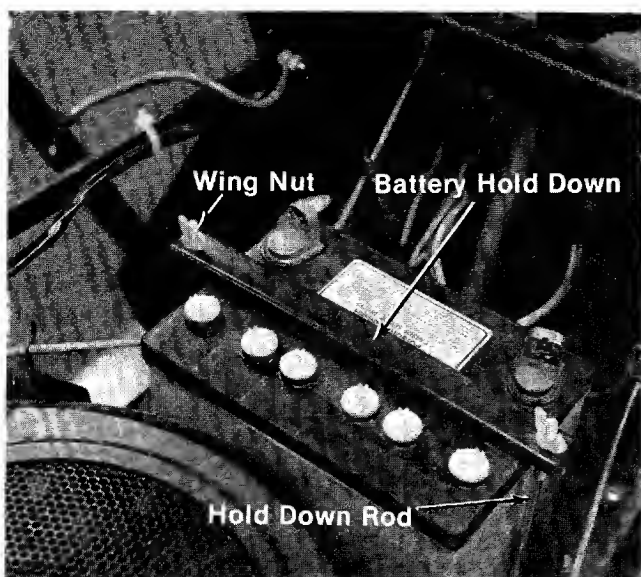

FIGURE 1.
- 2. Secure the battery with the two hold down rods, battery hold down, lock washers and wing nuts. See figure 1.